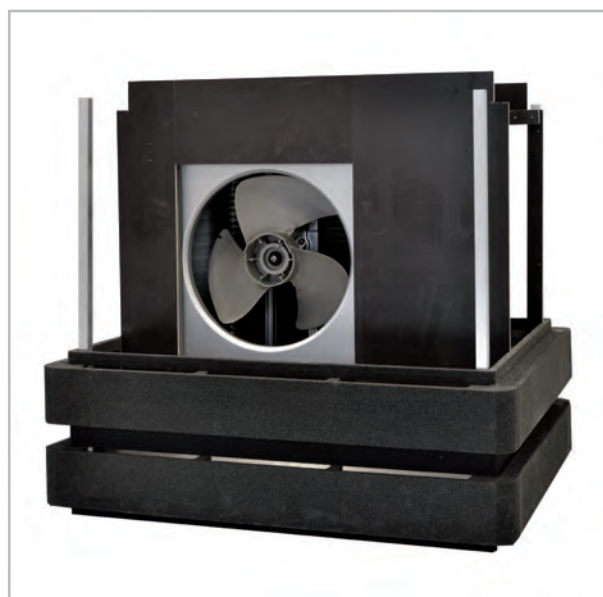

Fig. 25
- 16.** After it has been installed, as shown in Fig. 25, the baffle plate is horizontal in the noise protection hood, directly in front of and tight to the outdoor unit.